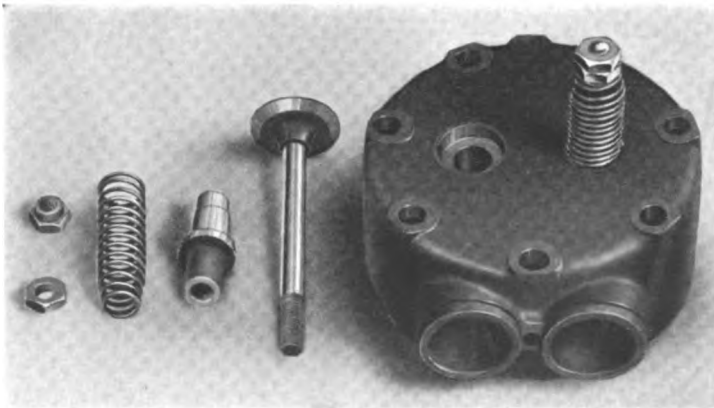

Fig. 14
- 136** — Fig. 14 shows a 75 cylinder head with one valve stem guide and valve assembly removed.